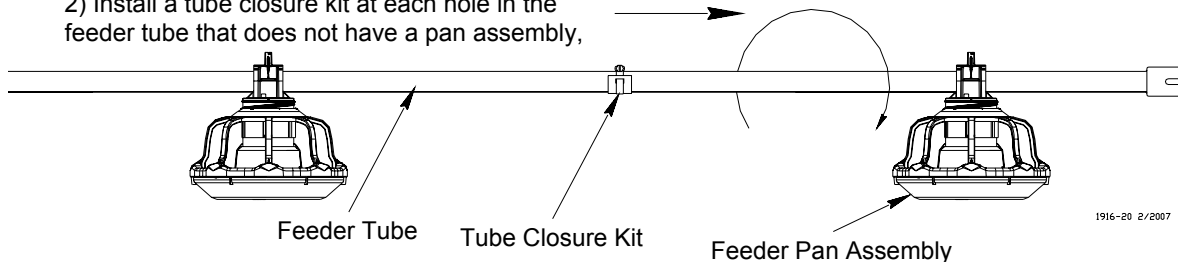

Figure 56. Assemble Feeders on Tubes
3. Rotate the auger tubes so that the seam is down, this holds the Pan Assemblies in place on the tubes, see figure 56.